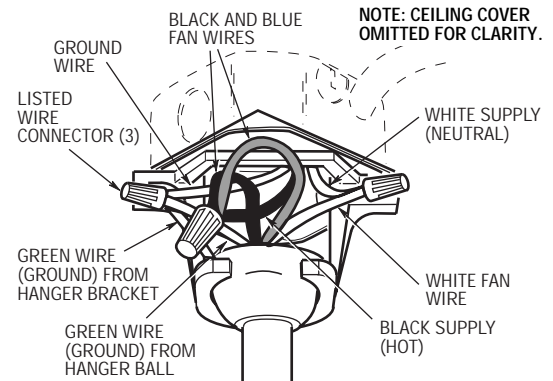

Figure 9
- 1. Connect the green grounding lead from the hanger ball and the green grounding lead from the hanger bracket to the grounding conductor of supply (this may be a bare wire or wire with green colored insulation). Securely connect wires with wire connectors supplied. (Figure 9.)
- 2. Securely connect the fan motor white wire to the supply white (neutral) wire using wire connector supplied (Figure 9). Securely connect the fan motor black wire and blue wire to the supply black (hot) wire using wire connector supplied (Figure 9).